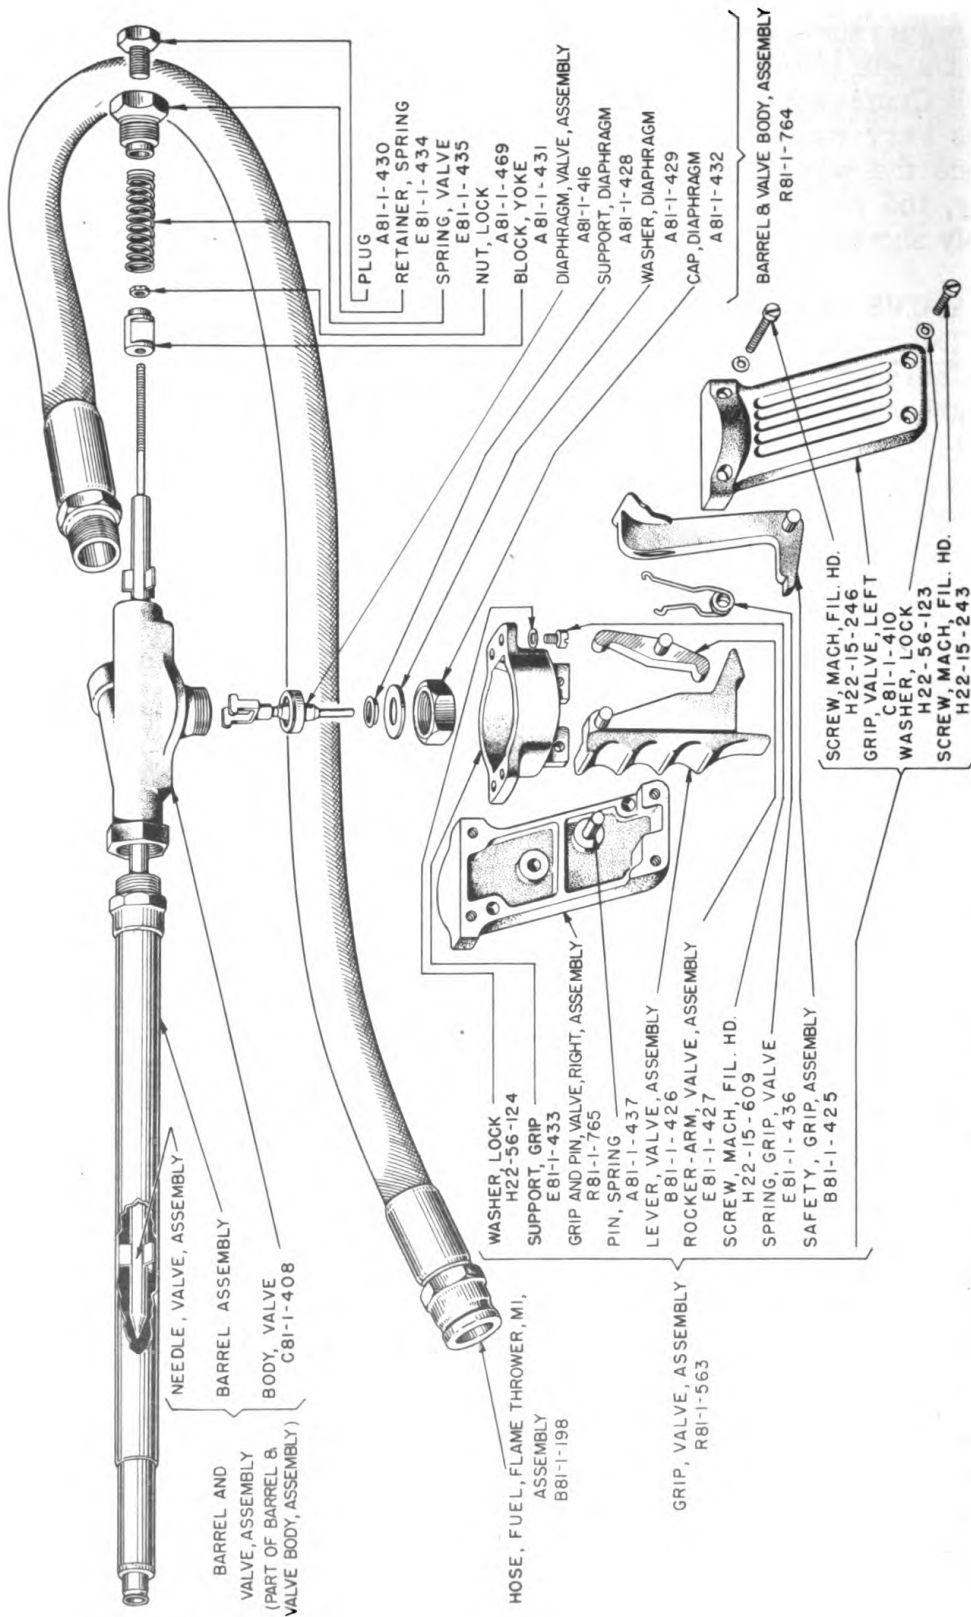
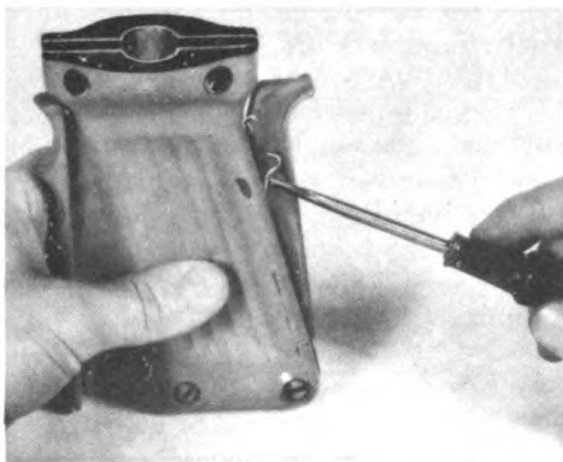

Fig 47. Fuel valve (disassembled) and fuel hose, showing nomenclature and Chemical Warfare Service stock numbers for requisitioning spare parts.
Fig 49. Using screw driver to push long end of valve-grip spring into groove in grip safety.
a. Description and functioning. (Fig 47) Hose, fuel, flame thrower, M1, assembly, provides a flexible connection between the fuel tanks and the gun.
(1) Hose. Made of synthetic rubber and reinforced with a cover of metal wire and cotton braid, the hose resists the action of gasoline and oil, and withstands a pressure of approximately 1,000 pounds per square inch. Its inside diameter is 7/8 inch; its outside diameter is approximately 1-1/4 inches.
(2) Nipples. The hose nipple, tank end, connects the hose to the tank coupling on the tank group. The hose nipple, gun end, is a threaded connector between the other end of the hose and the fuel-valve body.
c. Installation of fuel-hose assembly. (1) To install in tank group, see Paragraph 70 c.
(1) File the end surface, being careful to keep the surface at a right angle to the sides of the nipple.
(2) Couple hose nipple, tank end, to tank coupling. If coupling closes very easily, indicating washer is not being compressed, replace the washer and recouple. If coupling still closes too freely, the nipple has been filed too short, and the fuel-hose assembly should be replaced as a unit.
a. Description and functioning. (Fig 47) The valve grip is part of the fuel valve. It includes the controls and is held by the firer in his right hand to support the gun group. Parts of the valve grip are:
(1) Left and right valve grips. A pistol-type grip is formed by two aluminum housings designated as the left valve grip and the right valve grip. The two parts are held together by four screws and four lock washers.
(2) Grip support. This aluminum housing is mounted above the left and right valve grips and connected to them by two screws and lock washers.
(3) Valve lever. This control is made to fit the fingers and is mounted in front of and between the two parts of the valve grip. A pin at the top of the lever fits into holes in left and right valve grips and serves as a pivot, governing the movement of the lever. When the lever and the grip safety are compressed simultaneously by the operator, the valve is thereby opened and fuel is ejected from the gun.
(4) Grip safety. This control is grasped by the hand simultaneously with the valve lever. It is mounted back of and between left and right valve grips. A pin at the base of the safety fits into holes in the left and right valve grips and serves as a pivot in a manner similar to the pin on the valve lever. The fuel cannot be discharged unless both the valve lever and the grip safety are compressed simultaneously.
(5) Rocker arm. The rocker arm, a boat-shaped metal part, is mounted near its center on a pin. It is held in contact with the valve lever by means of a valve-grip spring and spring pin. At its top end, the rocker arm touches the yoke shaft of the valve-diaphragm assembly. When the valve lever and the grip safety are compressed, the rocker arm pushes the valve diaphragm assembly forward.
(6) Valve-grip spring. When the firer's hand releases the valve grip, the valve-grip spring forces the valve lever, the grip safety, and the rocker arm back to their normal, nonoperating positions.
b. Removal of valve grip. (1) Unscrew the four screws and lock washers that hold the grip support to the valve body. Remove the valve grip as a unit.
(2) Put left valve grip in place and insert the two lower lock washers and screws. Tighten the two screws enough to hold parts in place and still leave space for moving long end of spring into the groove in grip safety. Push spring into groove with a screw driver. (Fig 49)
(3) With spring in place, fully tighten the two screws with screw driver.
(4) Place grip support in position, and insert the two upper lock washers and screws. Tighten screws, using screw driver.
(5) Attach valve grip to valve body, using the four lock washers and inserting the four screws through the grip support. Make sure that the yoke shaft of the valve-diaphragm assembly is in front of rocker arm.
a. Description and functioning. (Fig 47) This assembly is part of the fuel valve. It includes the barrel, valve body, and
(10) Barrel (Figs 47 and 54), which carries the fuel to the ignition head. It also supports or contains other components of the gun. The barrel assembly is replaced as a unit with the needle. It consists of a tube, made of thin metal, with a threaded fitting at the back end, and a nozzle brazed into the front end of the tube. The nozzle ejects the fuel from the barrel through the ignition head. The fuel emerges from two holes in the nozzle: